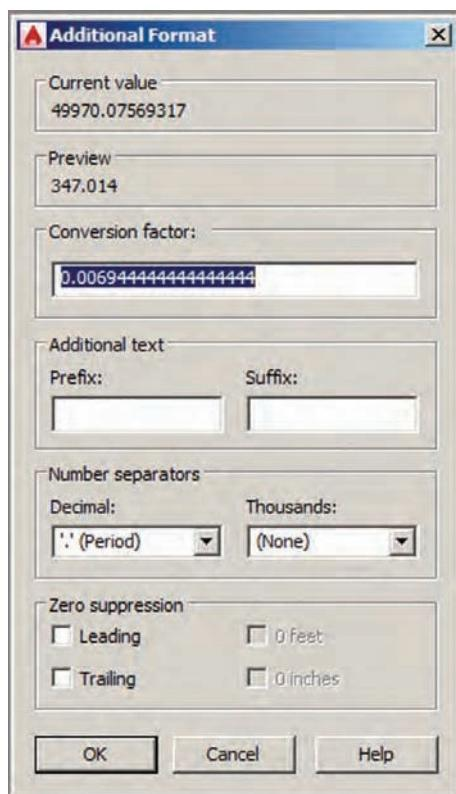

FIGURE 15.24 Converting units in the Additional Format dialog box
- In Imperial units, remove the SQ. FT. text from the Suffix text box and type **1/144** in the Conversion Factor text box to convert from square inches to square feet. Click OK, and the fraction is converted to decimal form (see Figure 15.24). Click OK again.